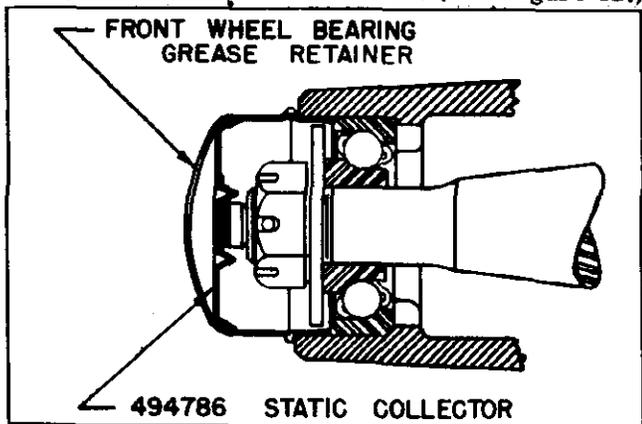

Figure 12
- Remove front wheel hub and dust caps and install front wheel static collectors. Remove any grease from hole center of spindle to make a good connection, bend cotter pin to clear static collector. (See Figure 12.)